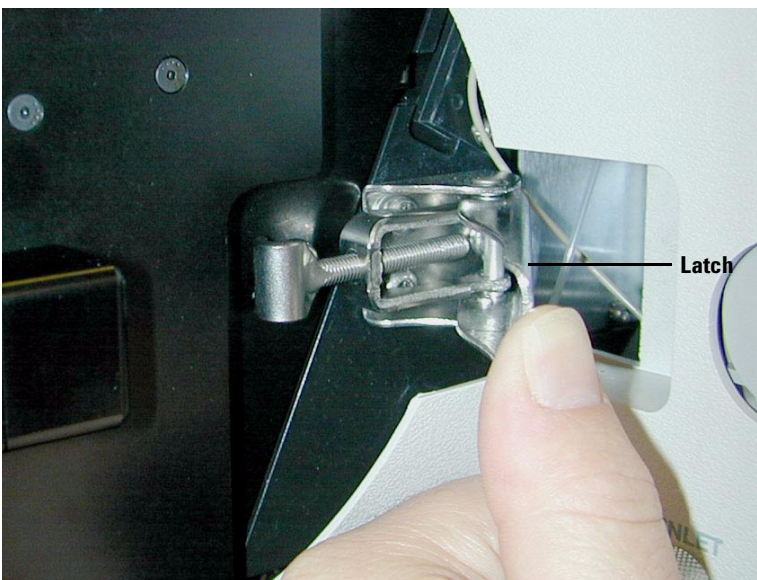

Figure 35 Secure both halves of the Source, and anchor it by latching it to the LC/MSD instrument
- 13 Secure the desolvation assembly latch on the PDF-MALDI Source to a very tight fit. See Figure 35.